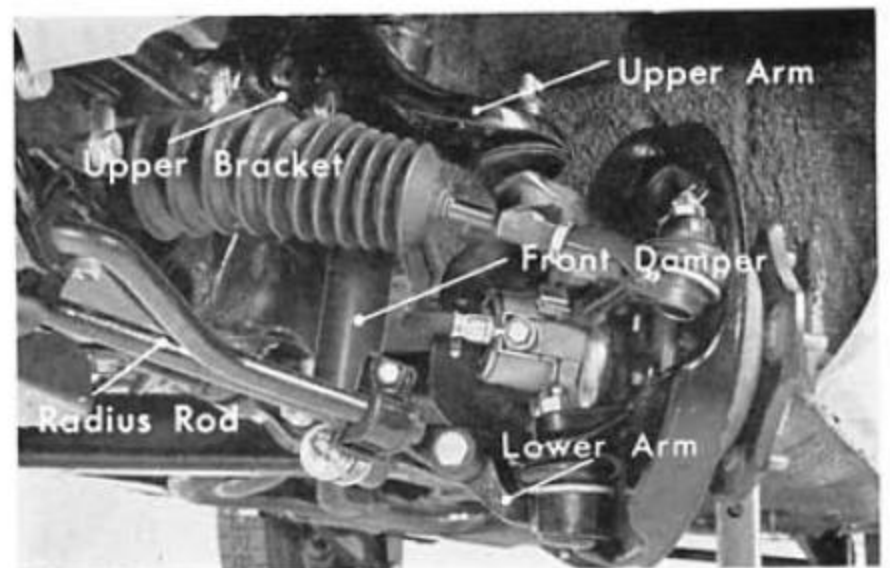

Fig. 18A-2
6. Remove the rear dampers (Fig. 18A-3).